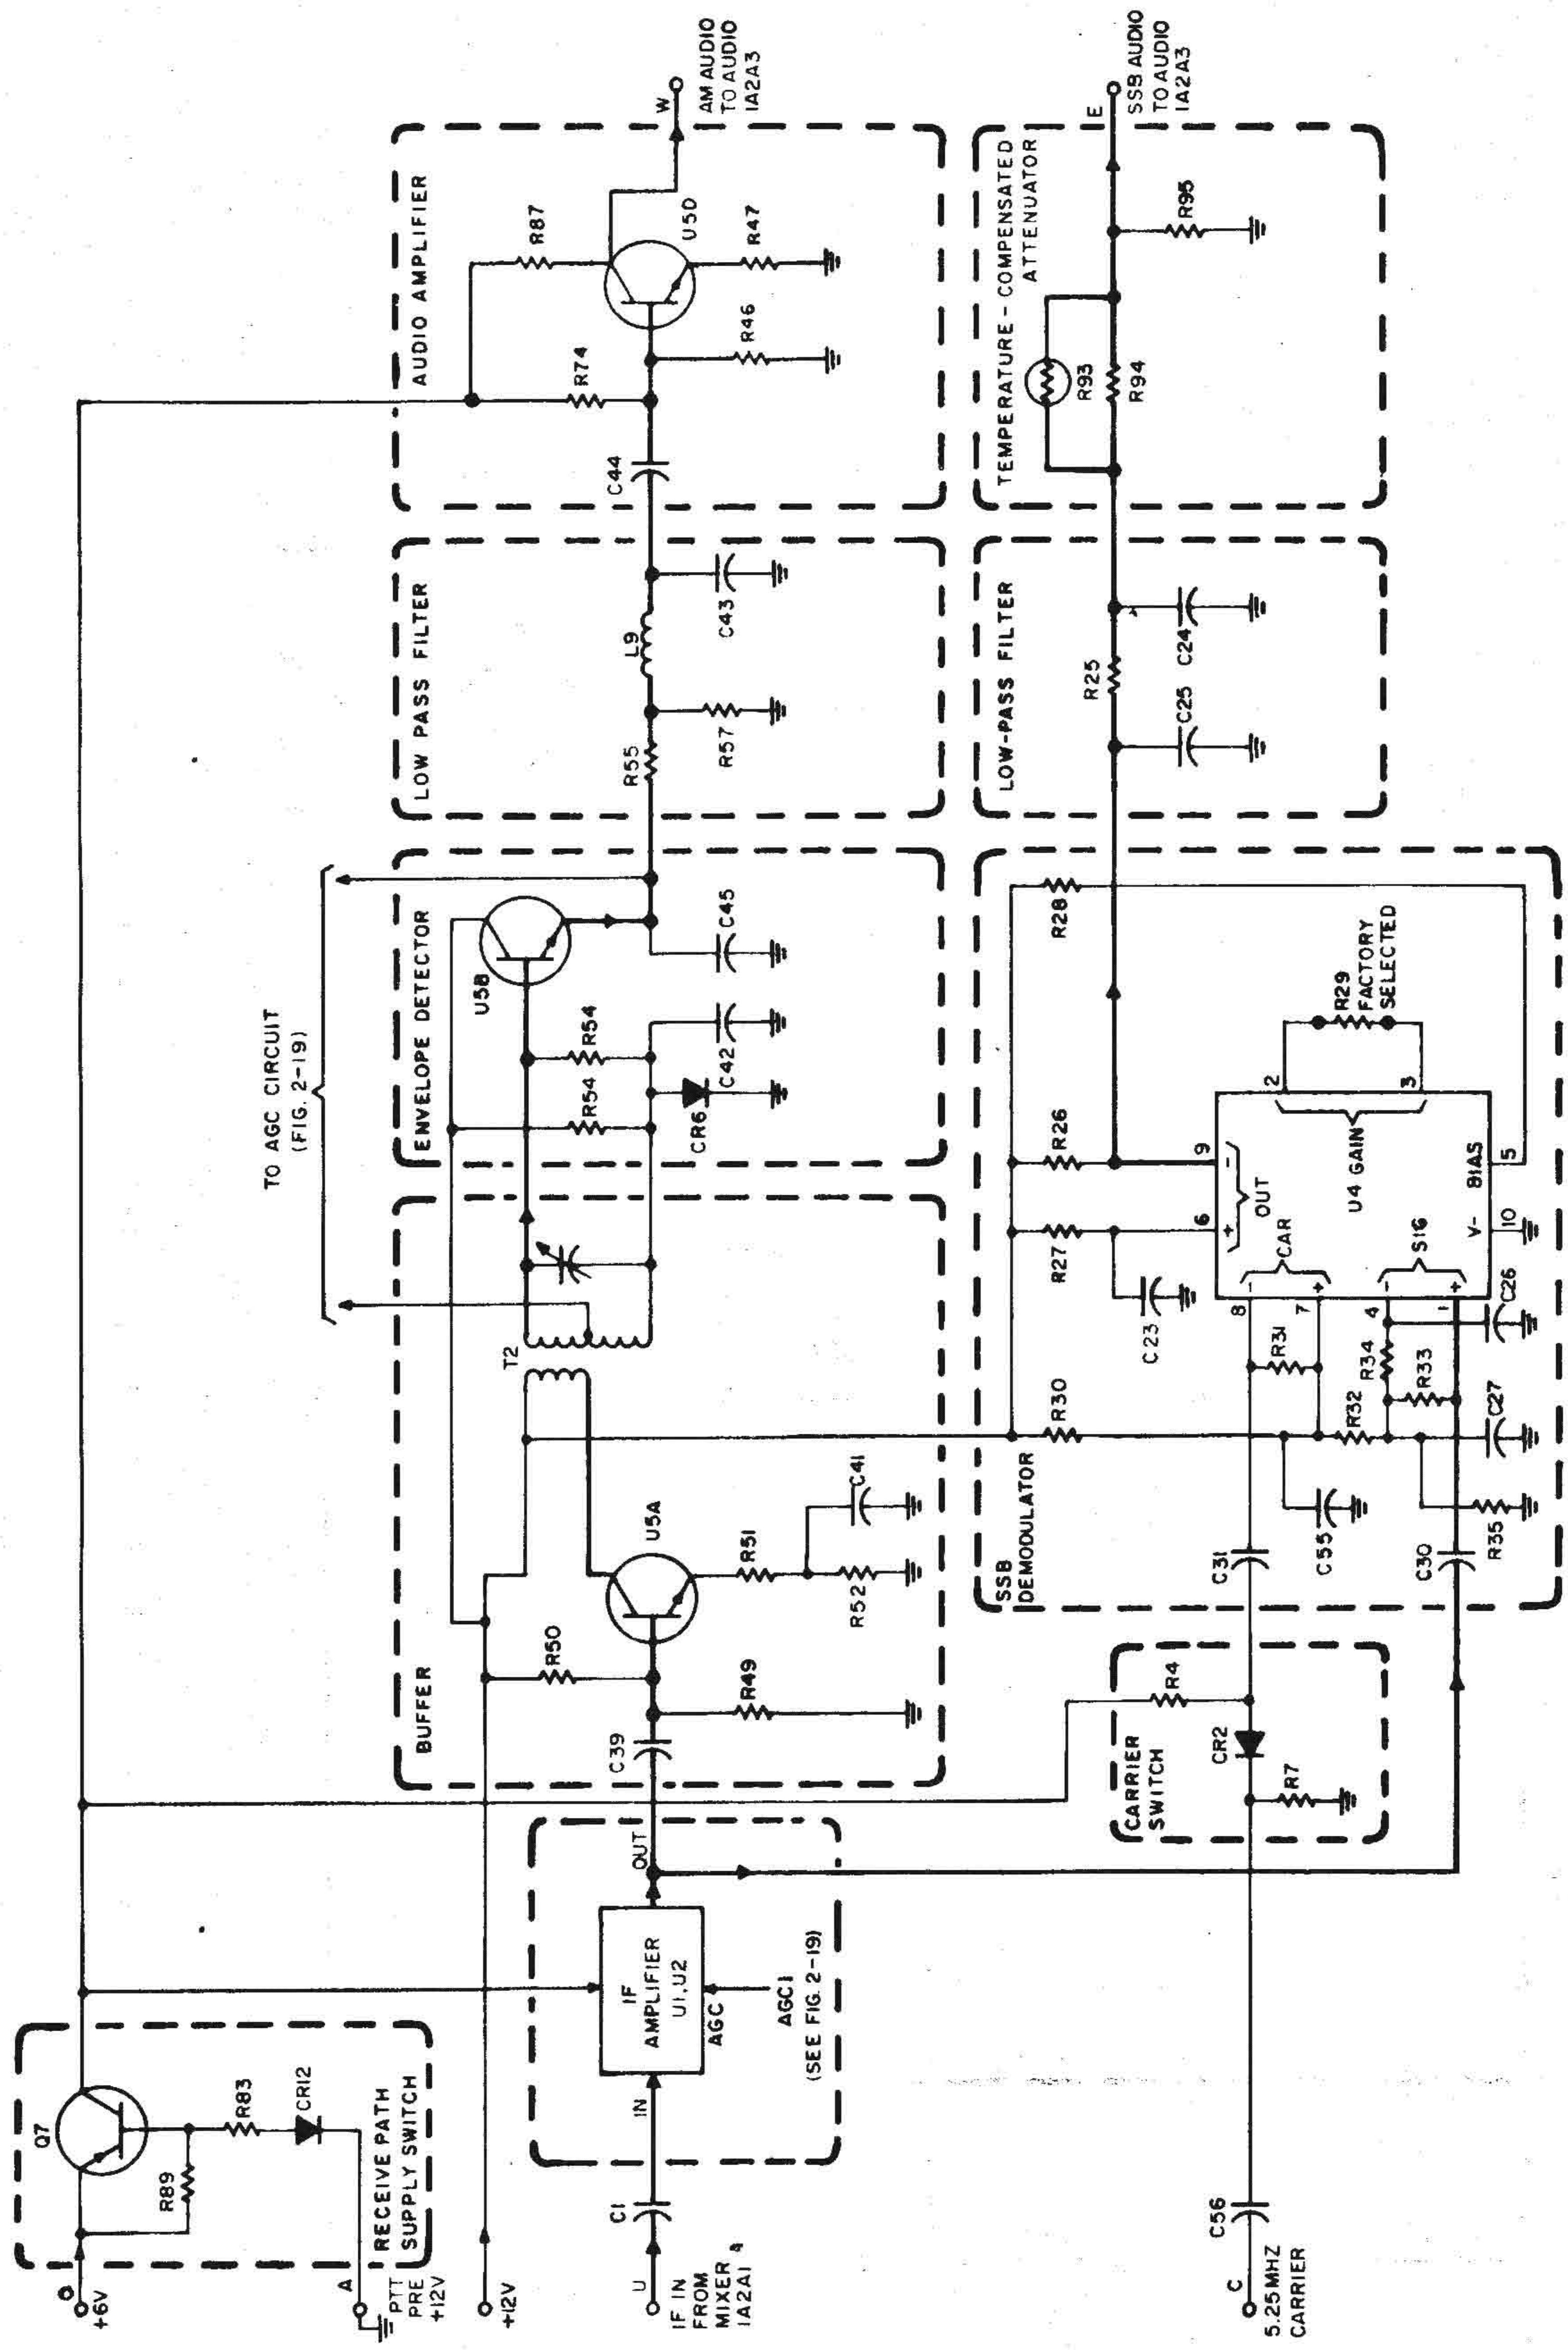

Fig. 2-18. Receive path, simplified schematic diagram
c. Receive Path (fig. 2-18). The receive path is activated when the PTT PRE +12V line is grounded. Current then flows from the base of transistor Q7, R83 and CR12, and Q7 saturates. +6V is applied via Q7 to U1, U2, and via R40 to the PIN diode CR2. CR2 conducts and connects the 5.25-MHz carrier signal to the SSB demodulator (see (2) below). The voltage on R7 then reverse-biases CR1 and disconnects the carrier signal from the transmit path circuits.
(1) IF amplifier. The received 5.25 MHz IF signal arriving from module FILTER 1A2A5 to pin U is coupled through C1 to integrated circuit U1. U1 is a differential input differential output RF amplifier with AGC capability. C3 decouples the second input of U1, and L2 provides a bias path to pin 3. The gain of U1 is controlled by the AGCI voltage applied to pin 2. This voltage is decoupled by R1 and C2. R2 and R3 are load resistors. The output voltages appearing at pins 5 and 6 of U1 are coupled through C59 and C6 to amplifier U2, which is identical to U1. The output load of U2 is the tuned-primary transformer T1. Capacitor CV1 adjusts the resonance frequency to 5.25 MHz.
(2) SSB demodulator. The SSB demodulator is built around the double balanced modulator U4, which operates as a product detector. The IF signal appearing at the secondary of T1 (approximately 35 mV) is coupled through C30 to the SIGNAL input of U4, and the 5.25-MHz signal - to its CARRIER input (through C56, CR2, C31). A voltage divider comprised of R30, R32, and R35, (bypassed by C27 and C55) provides bias voltages for U4 inputs. The bias voltages are applied via R31, R33 and R34. The gain of U4 depends on the ratio of the load resistor to the gain-setting resistor R29. The value of R29 is selected to achieve the correct SSB demodulated audio level. The audio output voltage developed across R26 is filtered by C25, R25 and